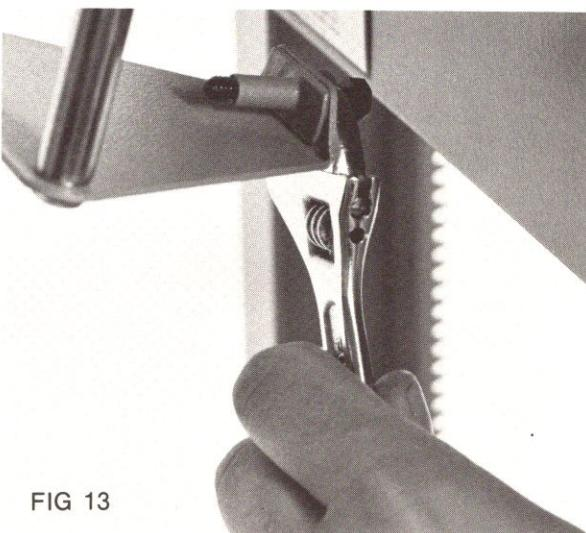

FIG 13
- Loosen the lock nut and turn the vertical adjustment screw (see fig. 13) until a level condition is achieved.